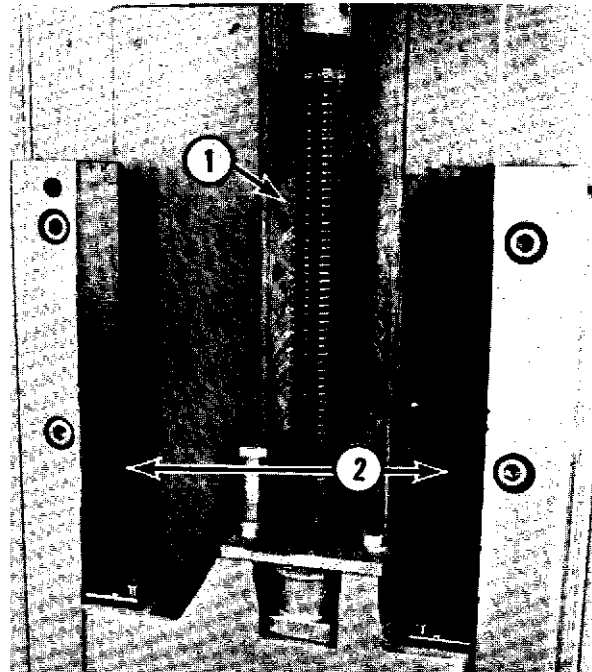

Fig. 6-3
The bowl lift screw assembly (1, Fig. 6-3) should be greased semi-annually (or more often depending on usage). See lubrication chart for proper lubricant.
- C. Apply grease to the lift screw (1, Fig. 6-3). Refer to the "Lubrication Chart", Section 6 for the correct type of lubrication.
The slideways (2, Fig. 6-3) should be lubricated semi-annually (or more often depending on usage).